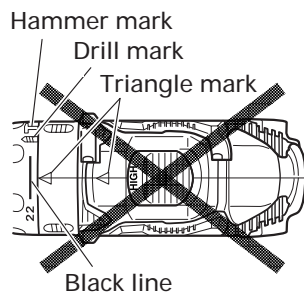

Fig. 22
- Do not use with the cap numeral at "22" and the black line at the middle of the drill mark. Doing so may cause damage. (See Fig. 22)